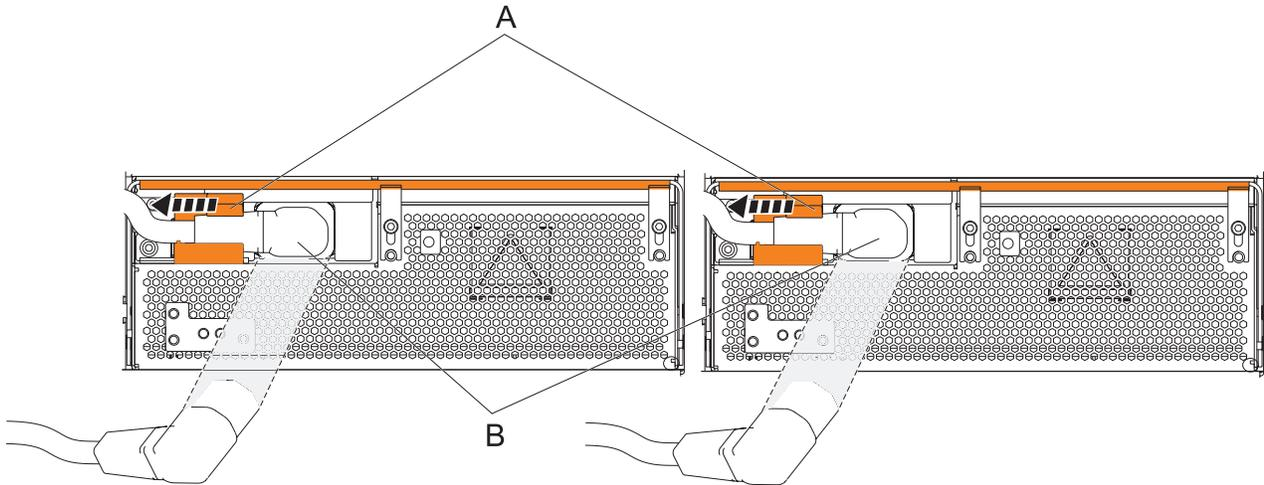

Figure 78. Disconnecting the OCA power cords
- a. Slide the power cord holders **(A)** to the left, located on the front of both the OCAs. See Figure 78 on page 100.